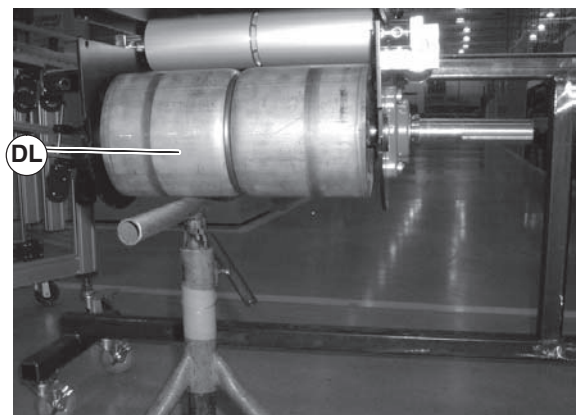

Figure 100
8. Temporarily support the drive pulley (Figure 100, item DL).